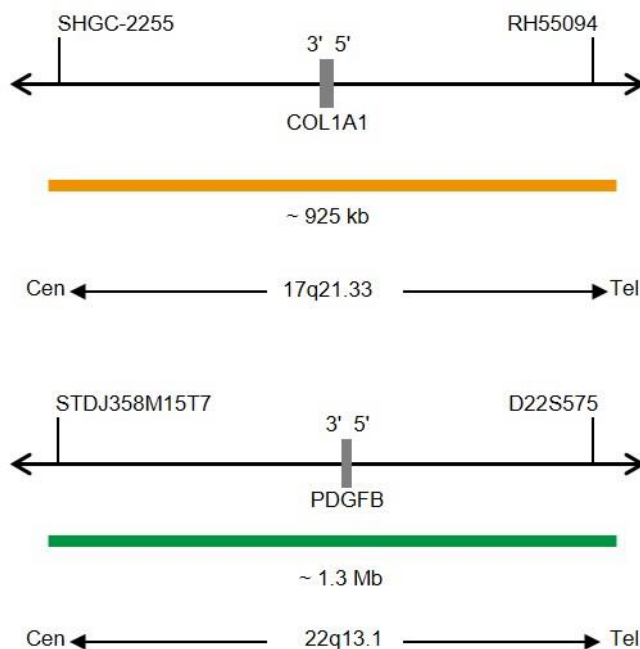

Fig. 1: Top: SPEC COL1A1 Probe map, Bottom: SPEC PDGFB Probe map (not to scale)
- ZyOrange (excitation 547 nm/emission 572 nm) labeled polynucleotides ( $\sim 6$  ng/ $\mu$ l), which target sequences mapping in 17q21.33\* (chr17:47,820,343-48,744,021) harboring the COL1A1 gene region (see Fig. 1).
- ZyGreen (excitation 503 nm/emission 528 nm) labeled polynucleotides ( $\sim 12$  ng/ $\mu$ l), which target sequences mapping in 22q13.1\* (chr22:38,928,973-40,267,687) harboring the PDGFB gene region (see Fig. 1).